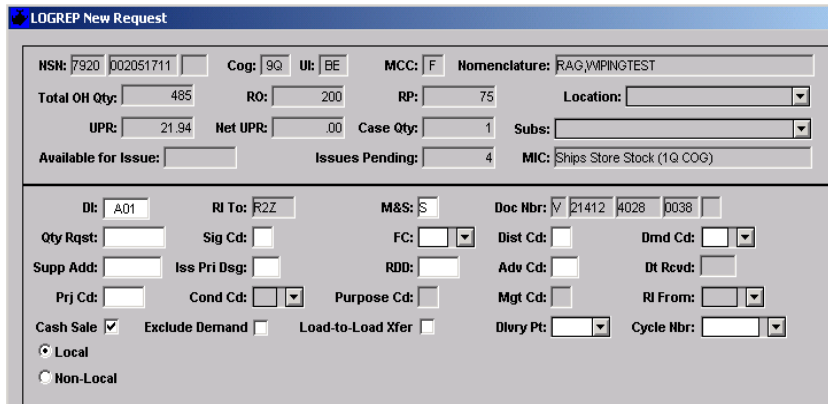

Figure 6.3
- 6.1.2 The **LOGREP New Request** window (Figure 6.3) is used to enter a new LOGREP request and to unsuspend a LOGREP request that errored during the LOGREP Requests batch process.